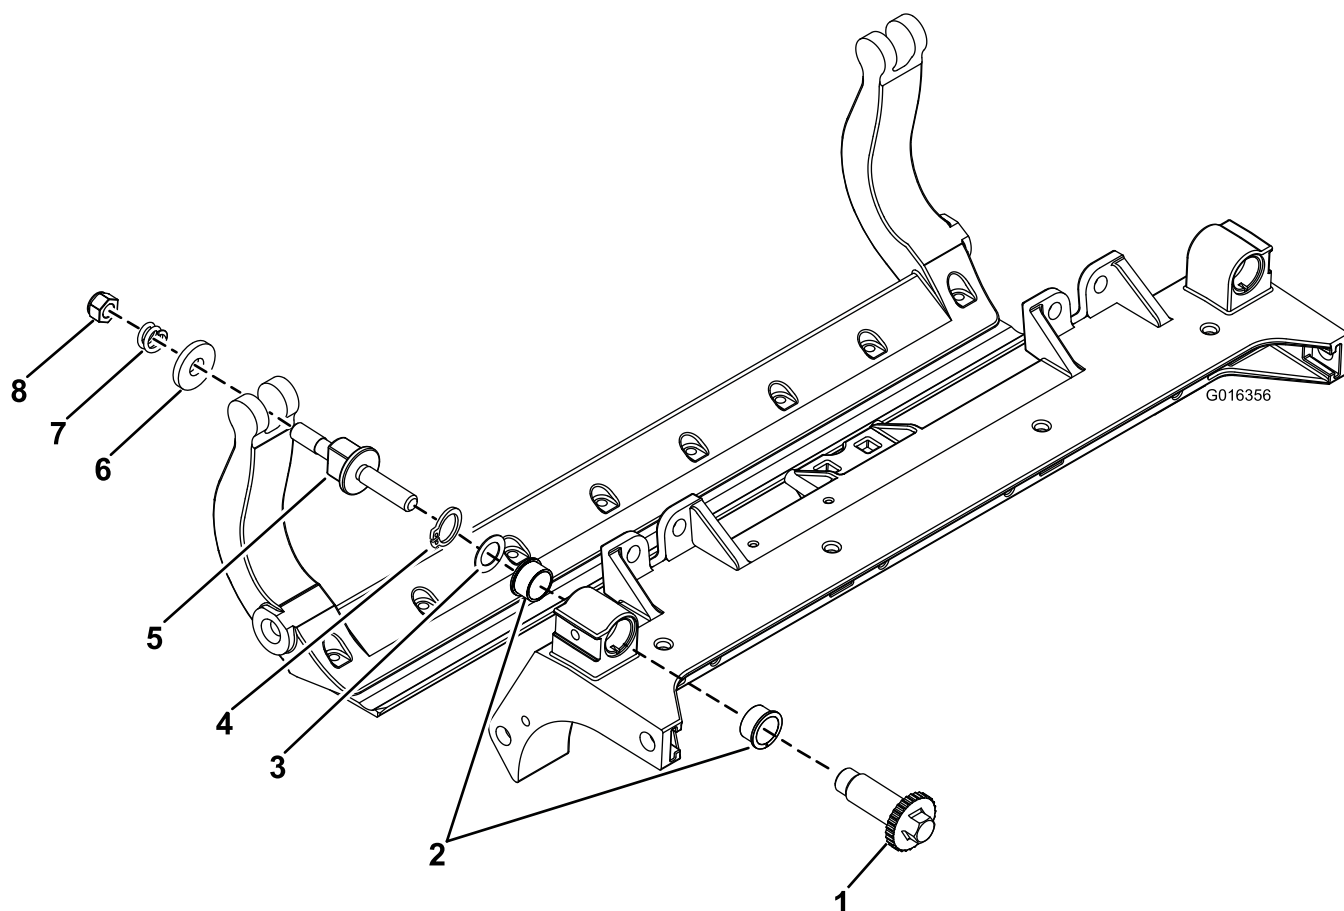

Figure 4
4. Remove the spring tension nut, compression spring and washer from bedbar adjuster screw (Figure 4).
7. Unscrew bedbar adjuster shaft from the bedbar adjuster screw (Figure 4). The bedbar adjuster shaft has left-hand threads.
8. Remove the retaining ring and wave washer from the adjuster shaft and remove the adjuster shaft from the cutting unit frame (Figure 4).
9. Remove the flange bushings from the cutting unit center frame (Figure 4).